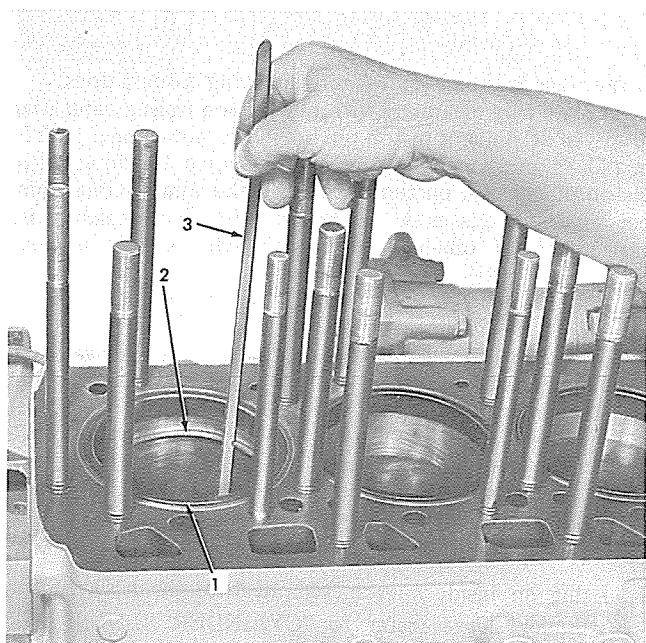

Fig. 3 — Checking Piston Ring Gap
1. The gap between ends of piston rings must be measured before rings are installed on pistons. Insufficient end gap will cause scored rings, scored cylinder sleeves, and other damage. Check the ring gap by inserting each ring into the cylinder sleeve in which it is to be used. Use a piston to push ring squarely down in the bore of the cylinder sleeve and far enough to be on the ring travel area. Check ring gap with a feeler gauge as shown in Fig. 3.